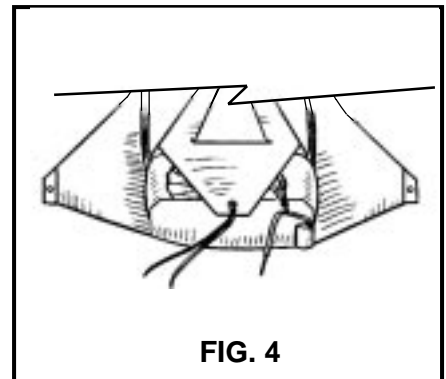

FIG. 4
Roll it tightly into a cylindrical shape (the tighter the better) (FIG. 4).
4. Close the bottom flap then the top flap. (**FIG. 4**).